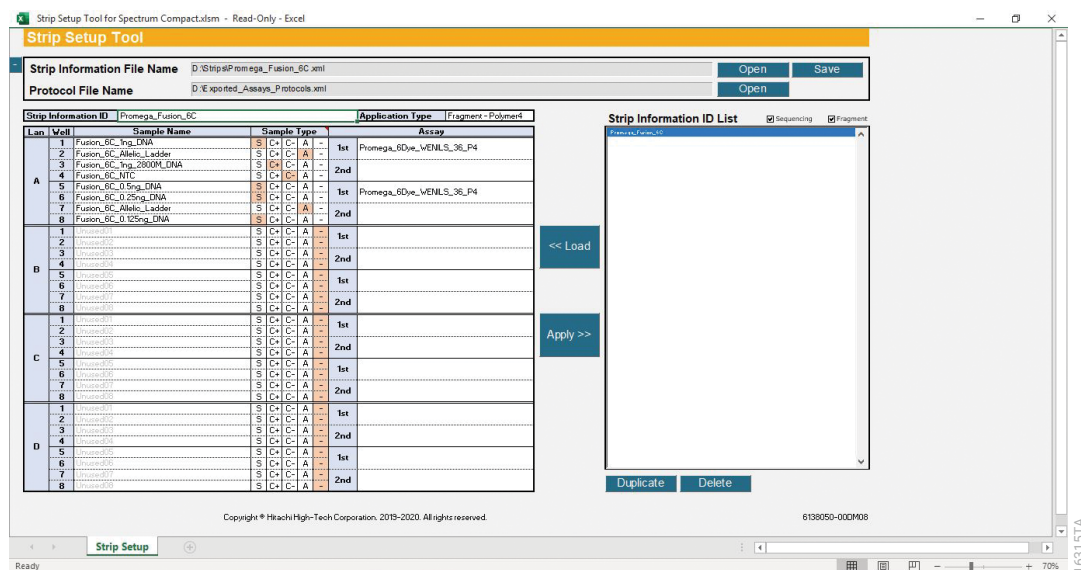

Figure 248. Strip Setup Tool for Spectrum Compact with new strip in Strip Information File Name.
- The name and location of the new strip will now appear in the Strip Information File Name cell (Figure 248).